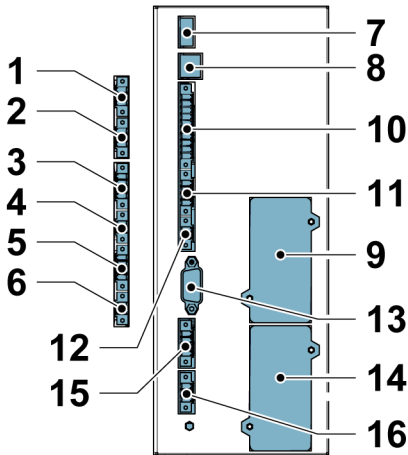
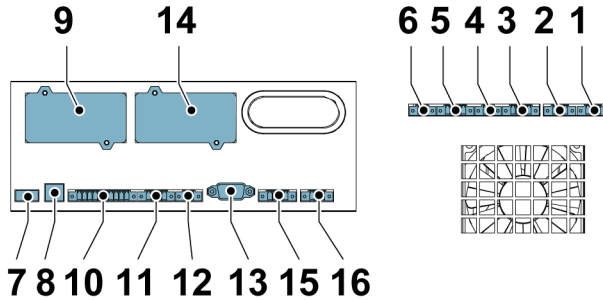

Figure 21. Communication interfaces in the UPS 20 kW frame
Figure 22. Communication interfaces in the UPS 40 kW frame
2. Terminal blocks TB6, TB7 and TB8 are for external parallel control signals (see Figure 21 and Figure 22).